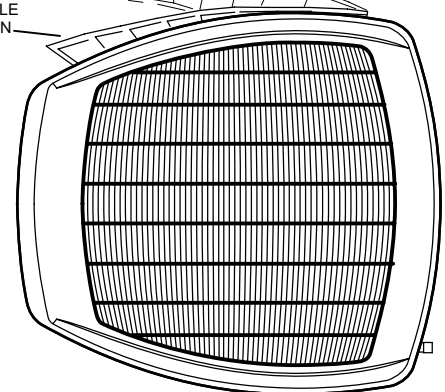

FIGURE 3
2. **Hold the panel firmly throughout this procedure.** Rotate bottom corner of panel away from hinge corner post until lower 3 tabs clear the slots (see figure 3, Detail B).
3. Move panel down until lip of upper tab clears the top slot in corner post (see figure 3, Detail A).